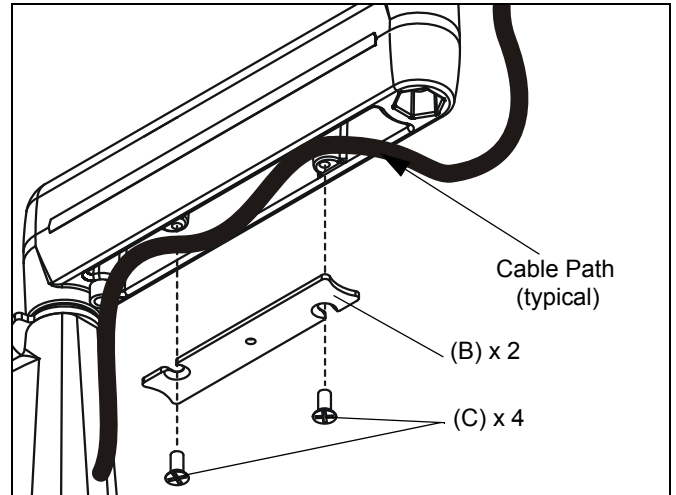

Figure 9
2. Carefully insert cables in cavity located in lower portion of mount arm (See Figure 9).
3. Using Phillips screwdriver, install cover (B) with two screws (C). (See Figure 9)